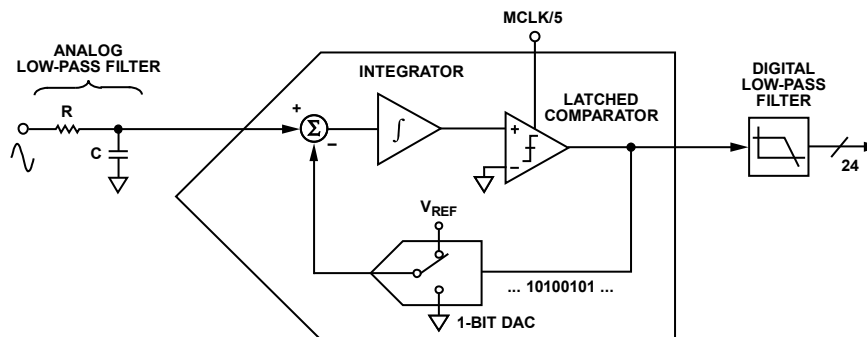
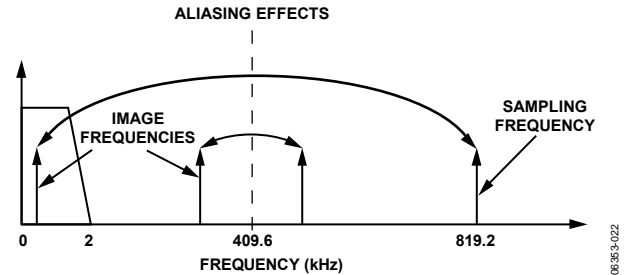

Figure 44. First-Order Σ - Δ ADC
Figure 45. ADC and Signal Processing in Current Channel Outline Dimensions
For simplicity, the block diagram in Figure 44 shows a first-order Σ - Δ ADC. The converter is made up of the Σ - Δ modulator and the digital low-pass filter (LPF).
Figure 44 also shows an analog LPF (RC) on the input to the modulator. This filter is present to prevent aliasing, an artifact of all sampled systems. Aliasing means that frequency components in the input signal to the ADC that are higher than half the sampling rate of the ADC appear in the sampled signal at a frequency below half the sampling rate. Figure 45 illustrates the effect. Frequency components (the black arrows) above half the sampling frequency (also known as the Nyquist frequency, that is, 409.6 kHz) are imaged or folded back down below 409.6 kHz. This happens with all ADCs, regardless of the architecture. In the example shown, only frequencies near the sampling frequency (819.2 kHz) move into the band of interest for metering (40 Hz to 2 kHz). This allows the use of a very simple LPF (low-pass filter) to attenuate high frequency (at approximately 819.2 kHz) noise and prevents distortion in the band of interest.
For conventional current sensors, a simple RC filter (single-pole LPF) with a corner frequency of 10 kHz produces an attenuation of approximately 40 dB at 819.2 kHz (see Figure 45). The 20 dB per decade attenuation is usually sufficient to eliminate the effects of aliasing for conventional current sensors. However, for a di/dt sensor such as a Rogowski coil, the sensor has a 20 dB per decade gain. This neutralizes the -20 dB per decade attenuation produced by one simple LPF. Therefore, when using a di/dt sensor, care should be taken to offset the 20 dB per decade gain. One simple approach is to cascade two RC filters to produce the -40 dB per decade attenuation needed.